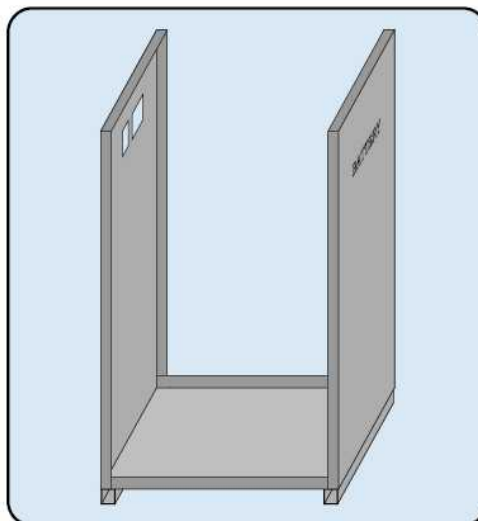

Figure 2
1. Place the cabinet base, then plug the V-slot of the front and rear panel into the flume of the base's two sides correspondingly. Shown as Figure 2.